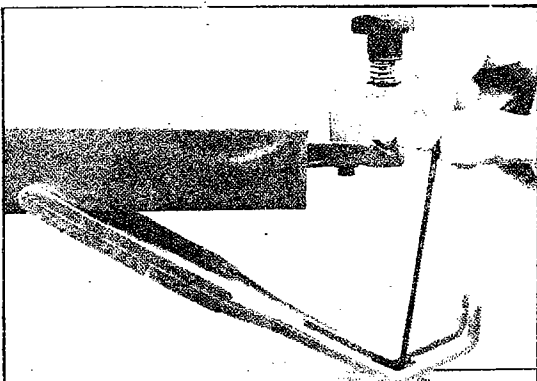

FIGURE 8
3. Install the Pin-Type blade by sliding blade into the table opening and clip slot and make sure the teeth of the blade is pointing downward. See Figure 8.